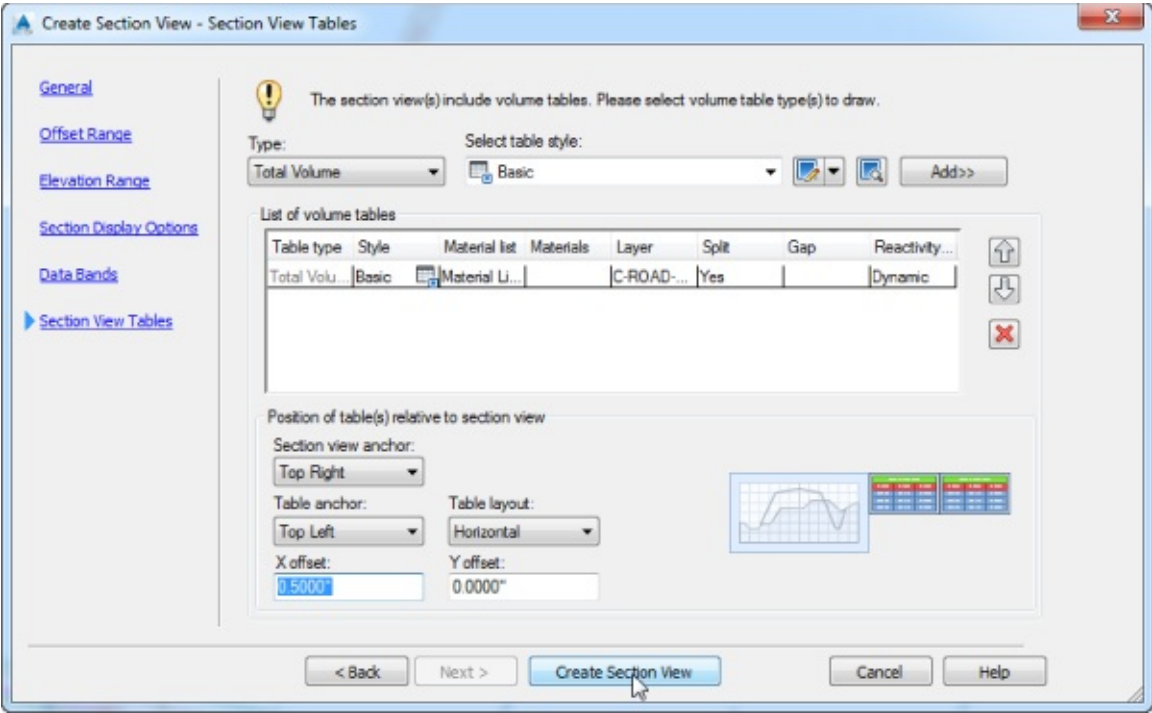

Figure 12.12 The Section View Tables page of the Create Section View Wizard
The sixth and last page, shown in Figure 12.12, is where you set up the section view tables. Note that this screen will be available only if you have already computed materials for the sample line group. On this page, you can select the type of table and the table style and select the position of the table
- As shown in Figure 12.12, you will have a row of data indicating that a material table will come in to the right of your view. Make sure that the X Offset is set to 0.5 (10 for metric users).